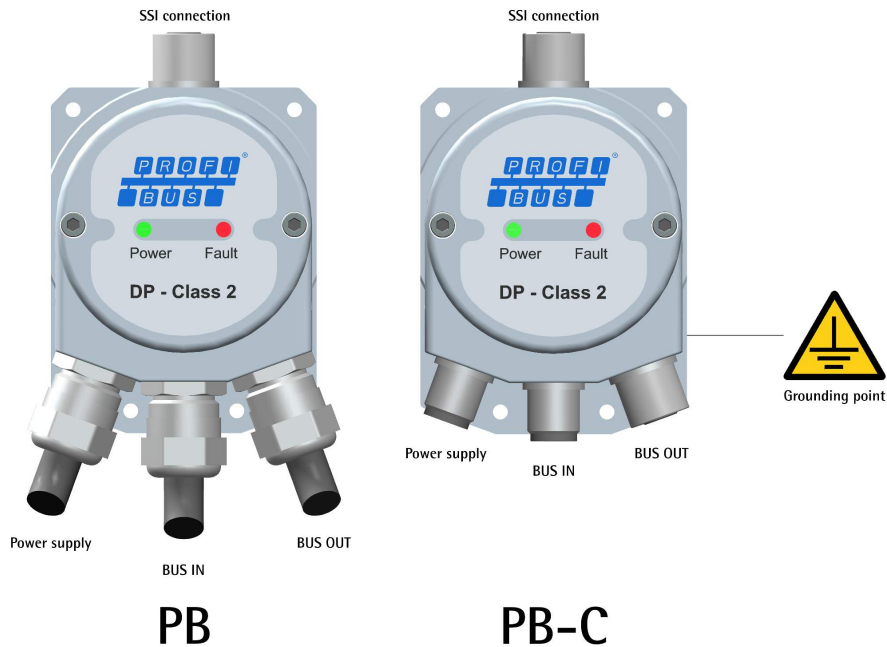
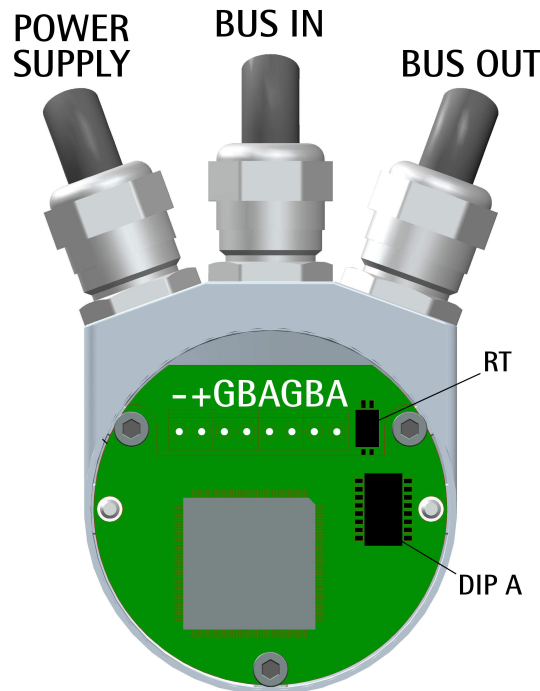

Figure 4
Figure 6
4.2 SSI connection (Figure 4)
4.3 Profibus converter with PGs: PB version (Figure 4 and Figure 6)
4.4 Profibus converter with M12 connectors: PB-C version (Figure 4 and Figure 7)
4.8 Node Address: DIP A (Figure 6 and Figure 7)
After having set the device address, please check the bus termination switch position (see the "4.10 RT Bus termination (Figure 6 and Figure 7)" section on page 31).
4.10 RT Bus termination (Figure 6 and Figure 7)